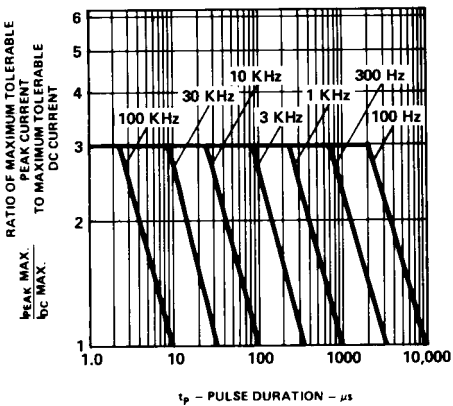

Figure 5. Maximum Tolerable Peak Current vs. Pulse Duration (I_{DC} MAX as per MAX Ratings).
1. See Figure 5 (Red), 10 (Yellow), or 15 (Green) to establish pulsed operating conditions.